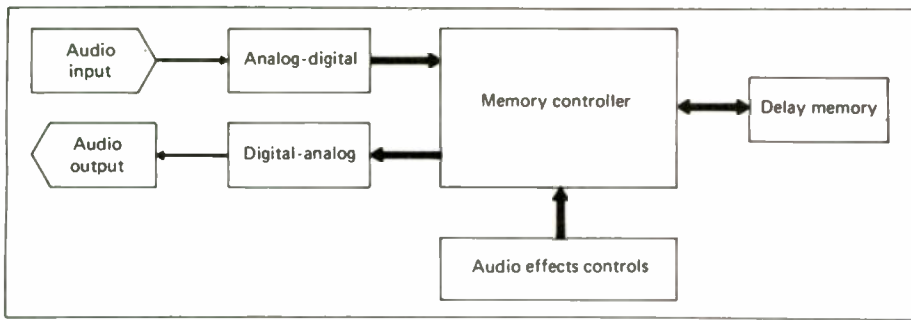
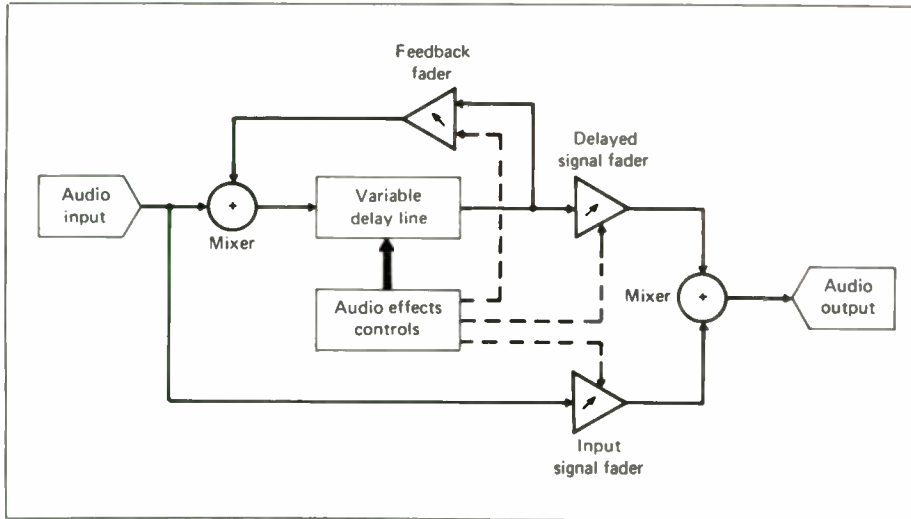

Figure 1 Digital Delay System
Figure 2 Digital Delay "Virtual System"
The digital hardware depicted in figure 1 simulates a delay system of a more familiar nature, shown in figure
2. One of the various properties of digital systems is that they can simulate many different processing structures. In this case, the way the system behaves is not the way it's wired up. Figure 1 is the way it is "wired up," and figure 2 (The Virtual System) is the way it acts.